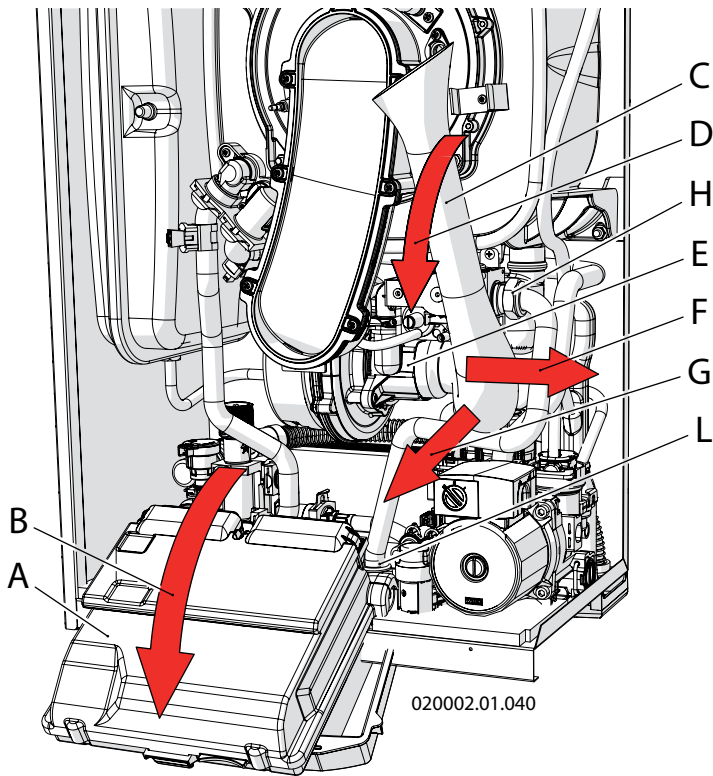

Figure 6.2 - Removing the air manifold
- 13 - remove the air manifold making sure to turn it externally and then slide it out of the fan inlet (see figure 6.2, detail "C");
- 15 - remove the gas inlet pipe via the two fittings (see figure 6.2, details "H" and "L")
- 20 - remove the gas supply pipe via the two fittings (see figure 6.2, details "H" and "L");
- 21 - re-mount the air manifold (see figure 6.2, detail "C");